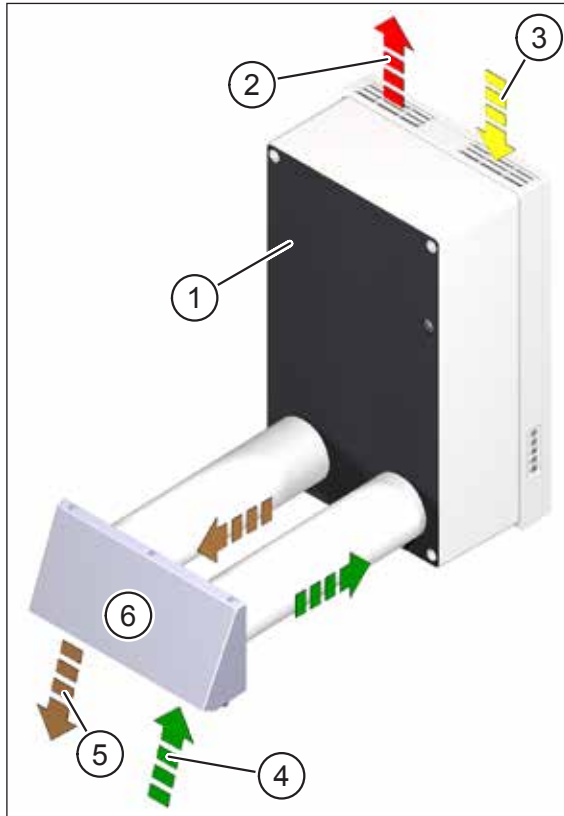
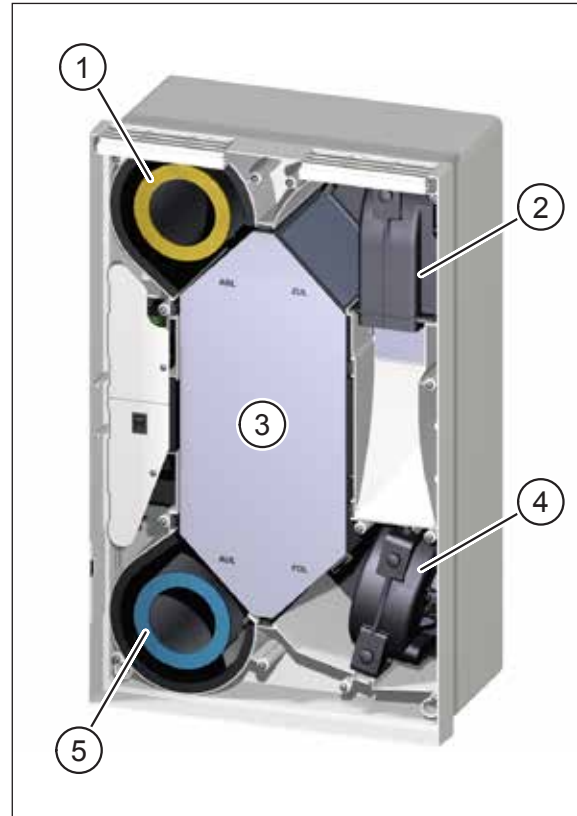

Fig. 8: How the ventilation unit works
Fig. 9: Components for air exchange
Item in Fig. 8	Designation
Item in Fig. 9	Designation
The ventilation unit operates continuously, transports outdoor air and extract air at the same time and guides and filters the outdoor air and extract air separately. The self-regulating fans (which ensure a constant volumetric flow rate) are arranged on the supply air and exhaust air sides. The supply air fan (item 2 in Fig. 9) transports outdoor air (item 4 in Fig. 8) through the outdoor air filter (item 5 in Fig. 9) and cross-counterflow plate heat exchanger (item 3 in Fig. 9) into the interior as supply air (item 2 in Fig. 8). The exhaust air fan (item 4 in Fig. 9) extracts the extract air (item 3 in Fig. 8) from the
interior. In the extract air filter (item 1 in Fig. 9), the extract air is cleaned, guided through the cross-counterflow plate heat exchanger and carried outside as exhaust air (item 5 in Fig. 8). The supply air and exhaust air fans each transport the same volume of air. The pressure in the interior remains practically constant.